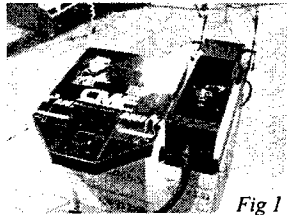

Fig 1
2. Turn the box upside down. Place the Floor Assembly and the Coin Tower onto the box as shown in figure 1.